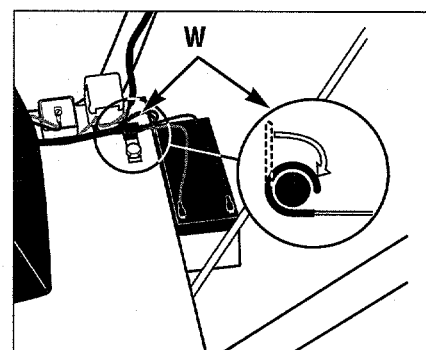

Figure 2-4: Wire harness secured by J-clips.
3. Secure wire harness in place against deck with pre-installed J-clips (W, Figure 2-4). Insert wire harness into J-clips as show in Figure 2-4, and bend J-clips over as shown to retain wire harness.